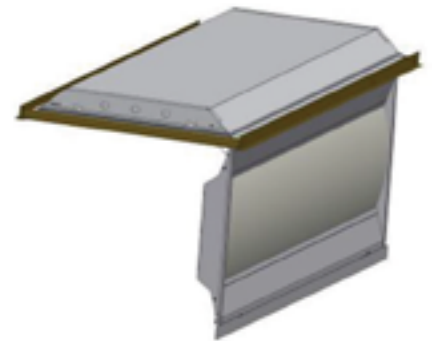

Fig. 1-3
- 5.) Place Light Engine Lens Assembly's hinge pins into the universal frame brackets. (Fig. 1-3)